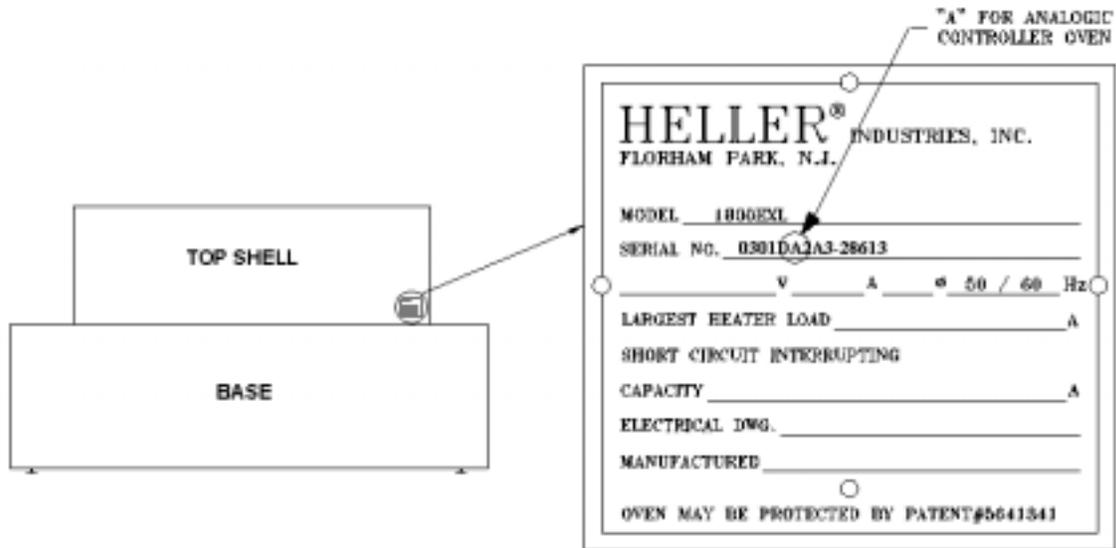

Figure 1
2. To check if the machine is equipped with an Analogic controller, locate the serial tag located at the rear of the top shell. "Serial no." on the serial tag indicates the oven is analogic if serial no. has "A" as the '7' character. (See Figure 1)